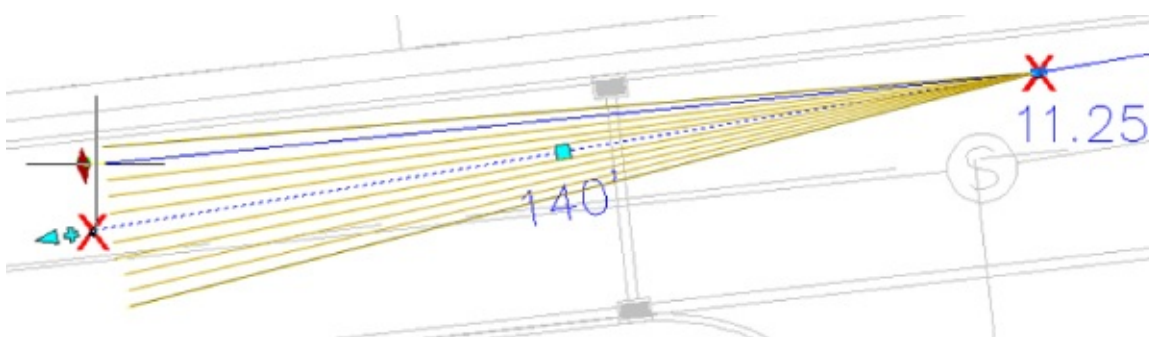

Figure 13.87 Use the Deflection glyph to move the pipe.
12. Select the pipe section between the X labeled 7 and the X labeled 8, and then use the Deflection glyph to move the end of the pipe up north toward (see Figure 13.87) the approximate center of the green circle in the drawing.